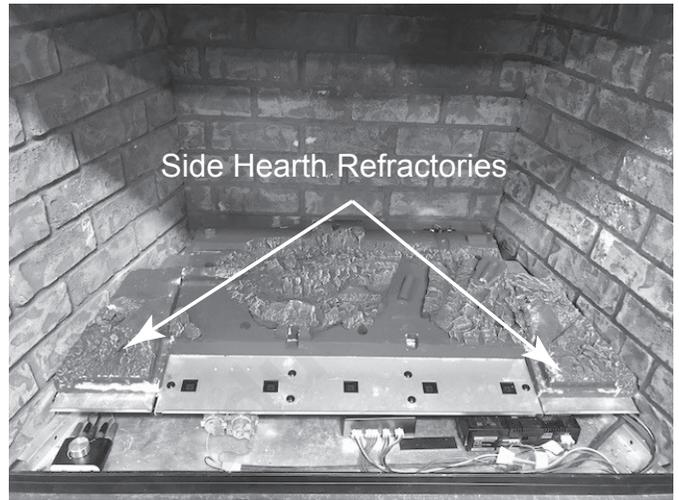

Figure 11.12
- Set Left & Right Side Hearth Refractories onto side brackets, as shown. Position side hearth refractories as shown. See Figure 11.12.